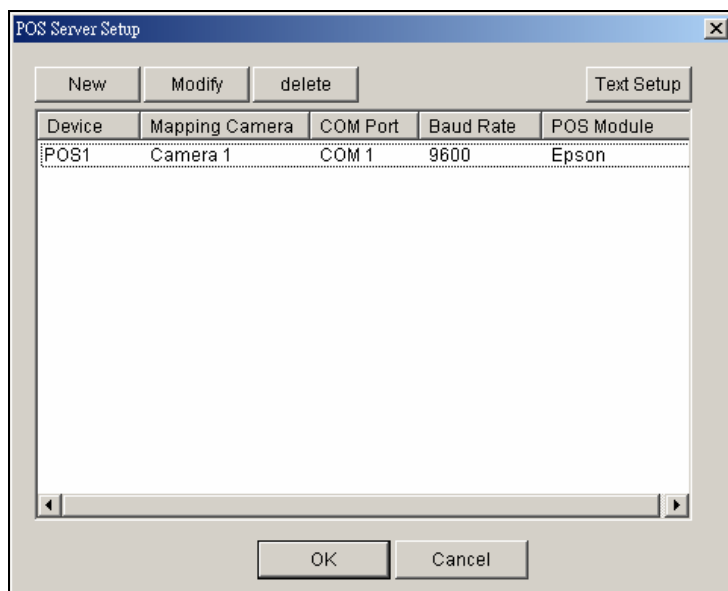

Figure 3-2 POS Server Setup
1. Open the POS Device Setup window (Figure 3-2).